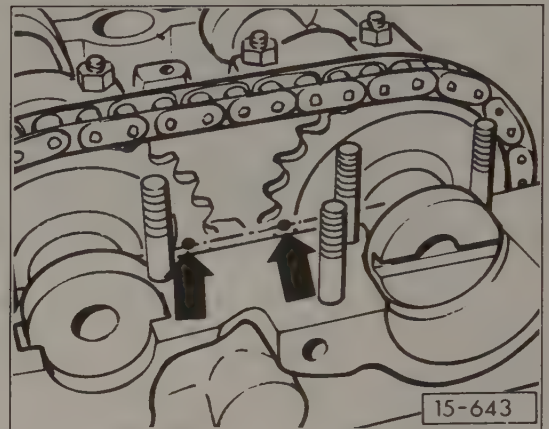

Fig. 4-14. Camshaft drive chain sprockets correctly aligned in 16-valve cylinder head.
- Installation is the reverse of removal. Install the camshafts and the drive chain so that the markings on the chain sprockets face each other and align with the top of the cylinder head, as shown in Fig. 4-14.